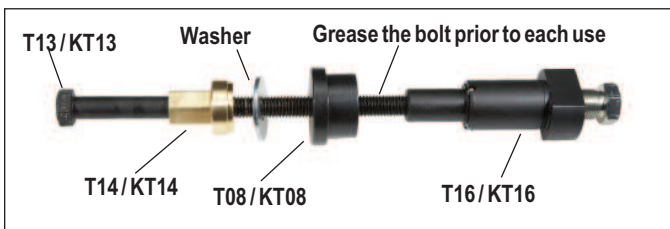

Figure 76 – Long Guide Pin Bushing Installation and Dimpling Tool
5.6.19 Place the washer and thread the brass nut (T14) on to the bolt (T13) followed by the flange (T08). See Figure 76.